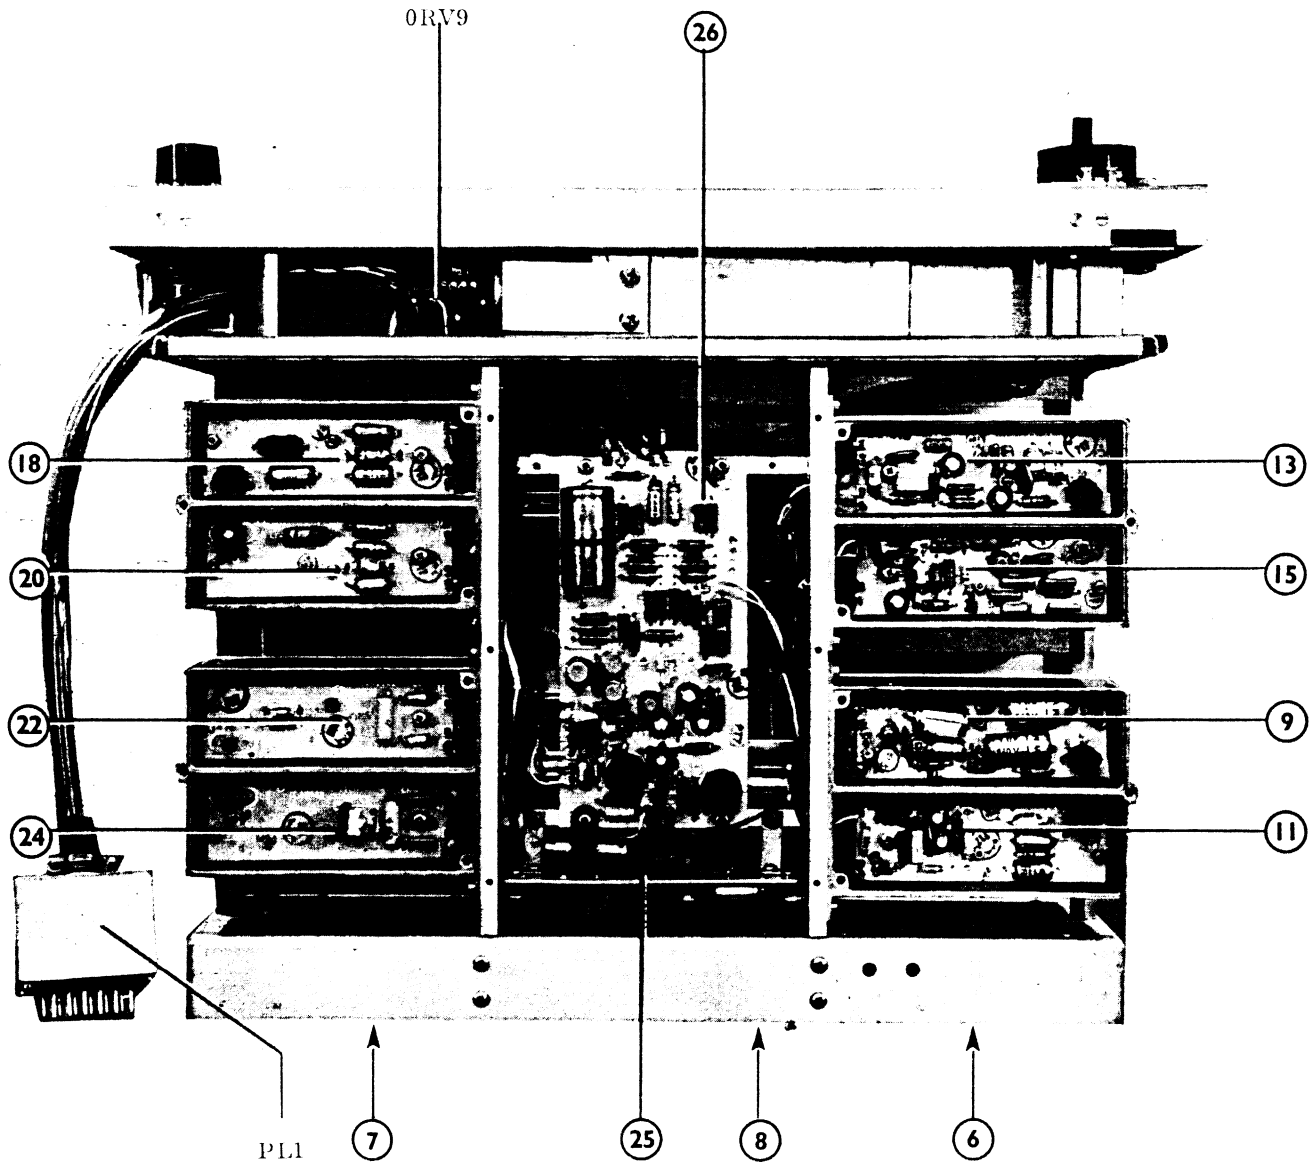

Fig. 4.3 R.F. unit with covers removed -top
Oscillators and output filters; boards (9) to (24): These boards are contained, in pairs, in cast boxes bolted on either side of the r.f. unit; oscillators on the left and output filters on the right. See Figs. 4.3 and 4.4. Access to the component side of each board may be obtained by